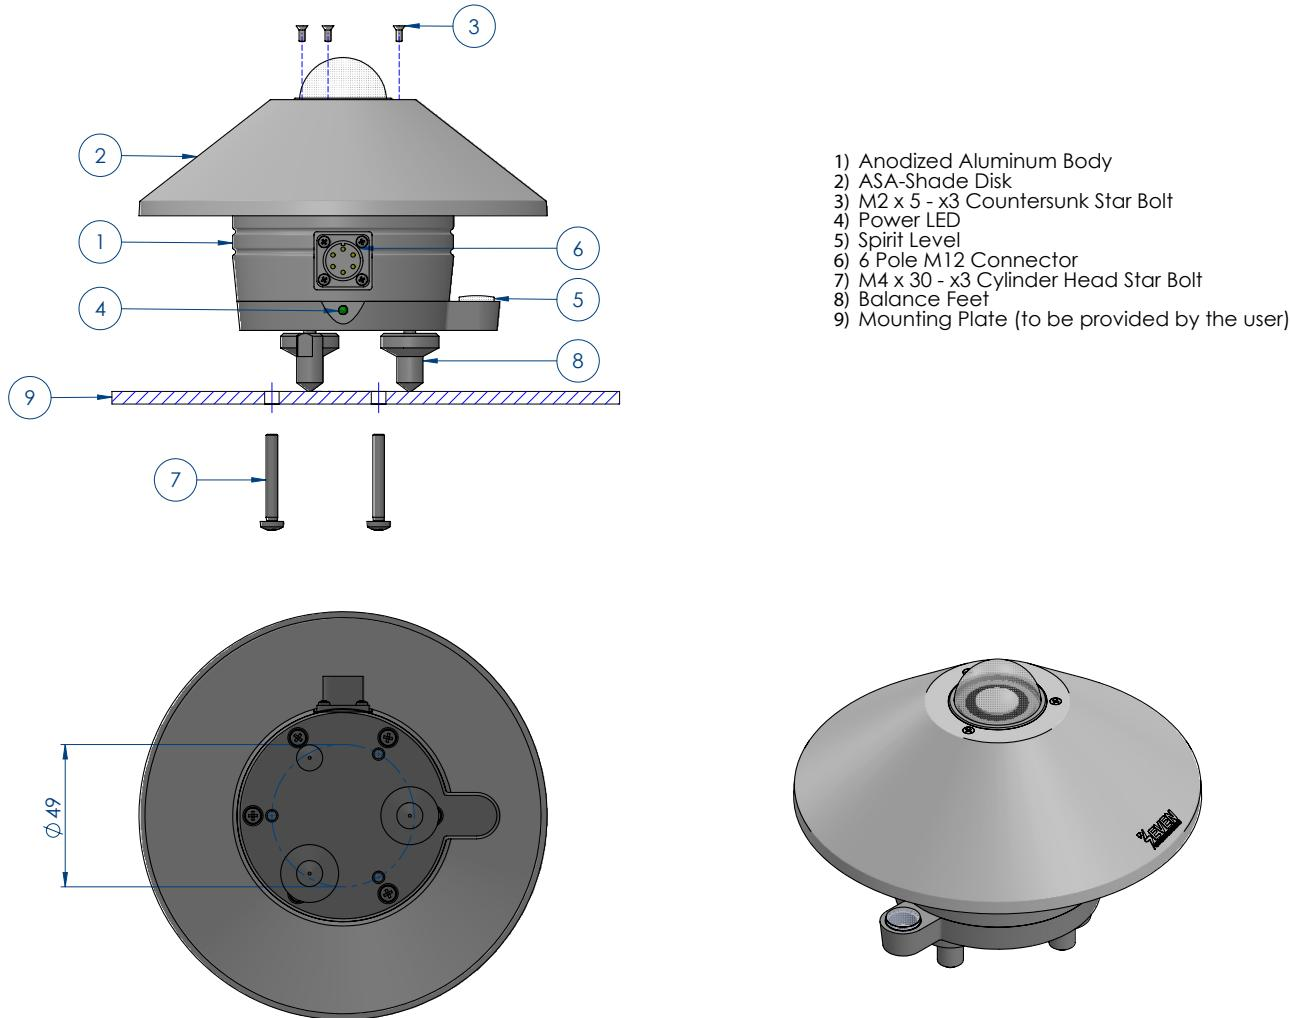

Figure 6 - Installation for Measuring GHI
- Complete the mounting of the pyranometer by fastening the screws using a drill as shown in the figure 6.